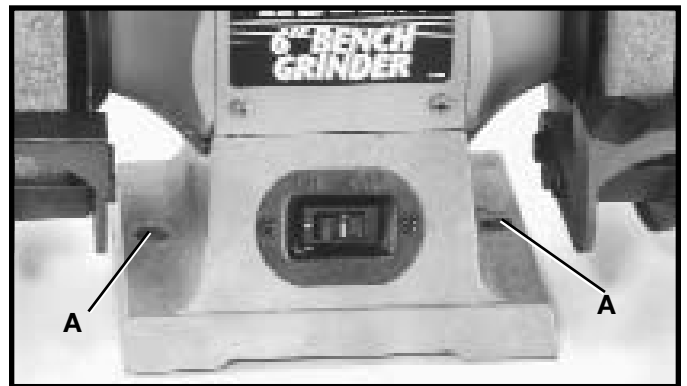

Fig. 9
IF DURING OPERATION THERE IS ANY TENDENCY FOR THE GRINDER TO TIP OVER, SLIDE OR "WALK," THE GRINDER MUST BE SECURED TO THE SUPPORTING SURFACE THROUGH THE TWO HOLES (A) Fig. 9, IN THE GRINDER BASE.